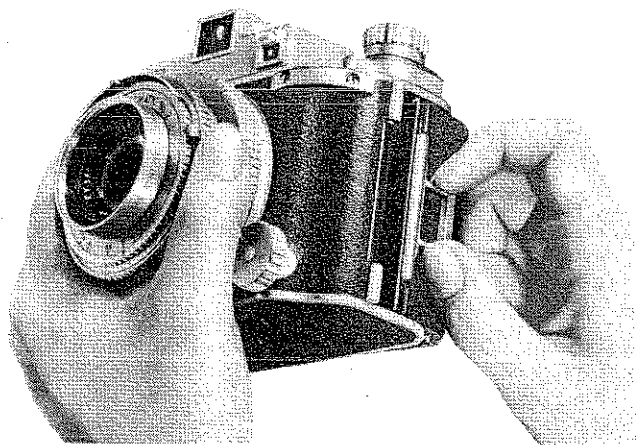

Figure 8—Opening Camera Back
(2) The back of the camera is hinged at both ends; it can be opened at either end or removed entirely. To open the back, press the two hinge grips toward one another and swing the back outward as shown in figure 8.